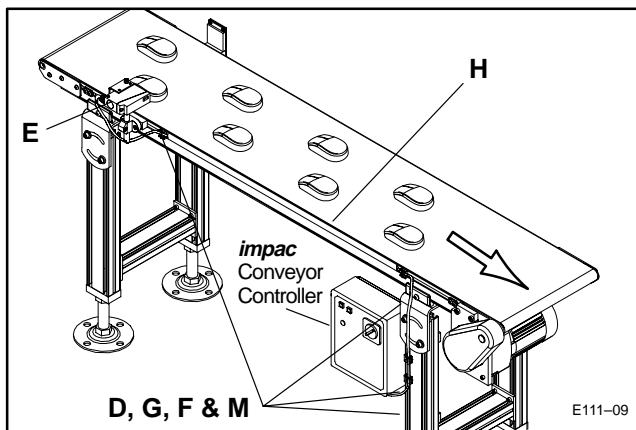

Figure 9: Photo-Eye Cable Routing to *impac* Conveyor Controller
- e. Figure 9 shows a typical wire routing of a Photo-Eye connection to an *impac* Conveyor Controller using the Conveyor's T-slot with both T-slot Cover Strips and Zip Ties (M).